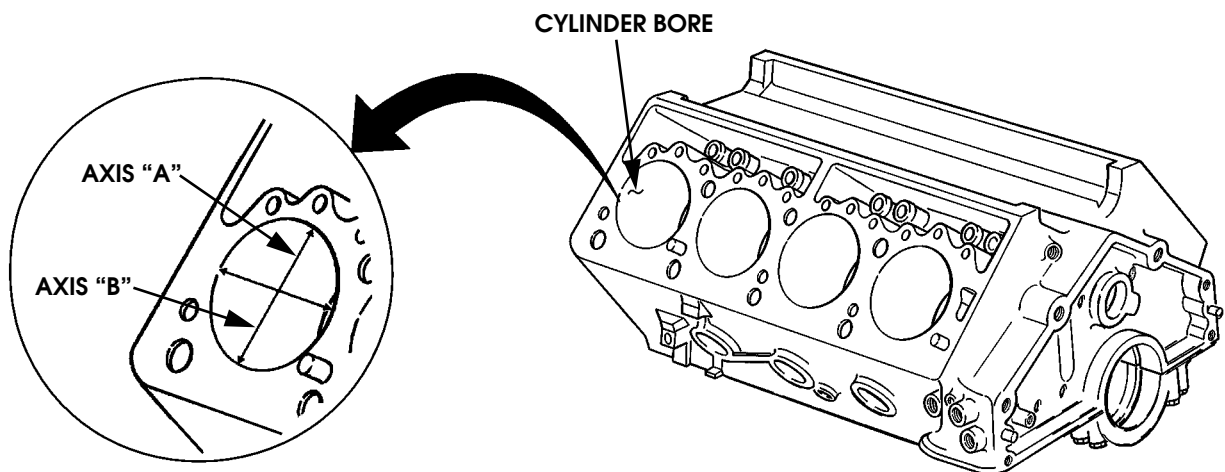

Figure 2-129: Cylinder Bore Measuring Points
- c. Work the gauge slowly up and down the cylinder from top to bottom. Take measurements at cylinder axis points "A" and "B" (Figure 2-129). Note that most wear occurs in the top 2 1/2 in. (63.5 mm) of the cylinder.